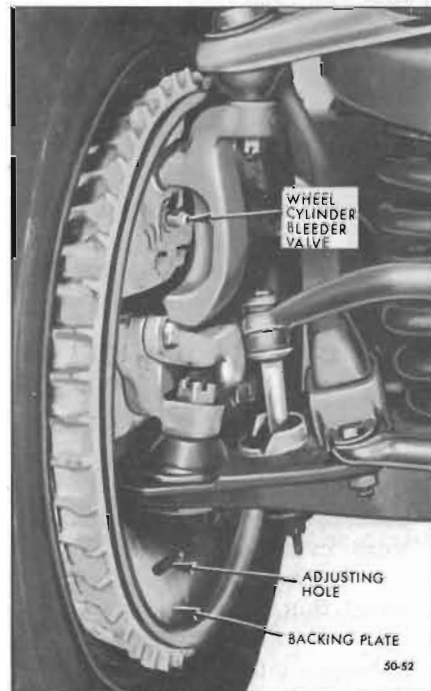

Figure 50-52—Right Front Wheel and Brake Assembly
2. Install Wrench J-21472 on bleeder valve. Slip a brake bleeder tube over ball of wheel cylinder bleeder valve. Place lower end of bleeder tube in a clean glass jar that is partially filled with clean brake fluid. Position end of tube so that it will remain submerged under fluid during bleeding operation. Unscrew bleeder valve 3/4 of a turn. See Figure 50-52.